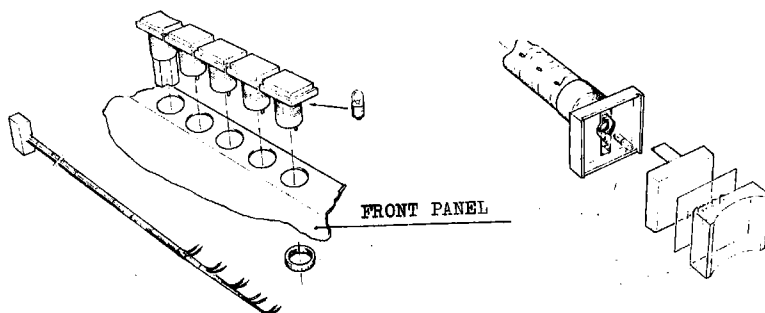

Fig.7-35 PUSHBUTTON AND INDICATORS
5.13 PUSH BUTTON AND INDICATORS (fig 7-35)
5.14 LAMP PUSH BUTTON AND INDICATORS (fig 7-35)